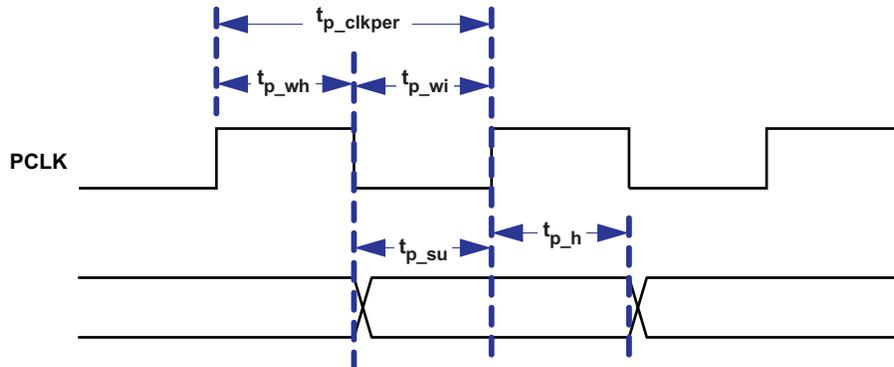

Figure 13. Parallel and BT.656 I/F General Timing
- (1) Clock jitter (in ns) should be calculated using this formula: Jitter = [1/ f_{clock} – 28.35 ns]. Setup and hold times must be met during clock jitter.
- (2) The active (capture) edge of PCLK for HSYNC, DATEN and PDATA(23:0) is SW programmable but defaults to the rising edge.
- (3) See Figure 13.
- (1) The BT.656 I/F accepts 8-bit per color, 4:2:2 YCb/Cr data encoded per the industry standard via PDATA(7:0) on the active edge of PCLK (i.e., programmable) as shown in Figure 13.
- (2) Clock jitter (in ns) should be calculated using this formula: Jitter = [1 / f_{clock} – 28.35 ns]. Setup and hold times must be met during clock jitter.